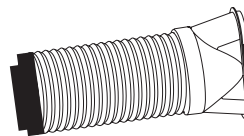

fig. 2
- 2 Secure the two coupling parts against the projections towards the grooves and press the pieces so they click into place. Then, counterclockwise, slide the hot blowing air hose onto the hot air blower hose assembly to form the assembly as in figure 2.